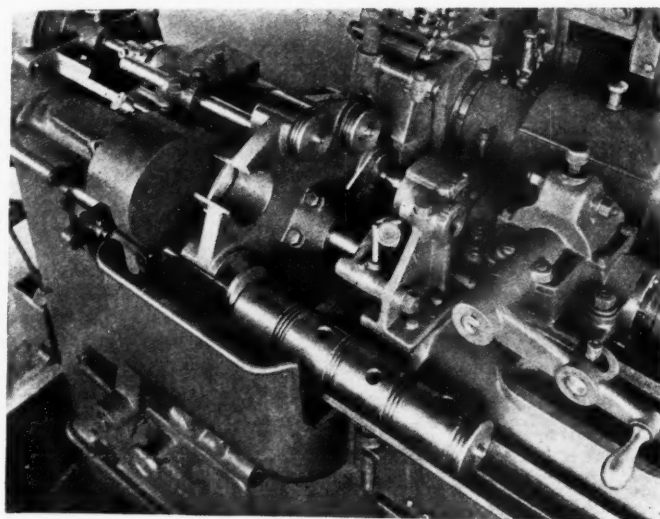

Fig. 11. Indexing fixture for grinding pistons in cylindrical grinder (Arter)
**P**ISTONS are ground either between centers or on centerless grinders, the latter method having come into use during the past year. Both methods are very rapid, as in the case of grinding between centers a turret-type of indexing fixture is used (Fig. 11). This is provided near its circumference with cylindrical openings a little larger in diameter than the pistons, and the latter can be loaded into it either by hand or automatically. The machine is provided with a cam which indexes the fixture, operates the footstock to engage the piston between centers, feeds the wheel toward the work and returns it, and finally ejects the piston from the fixture.